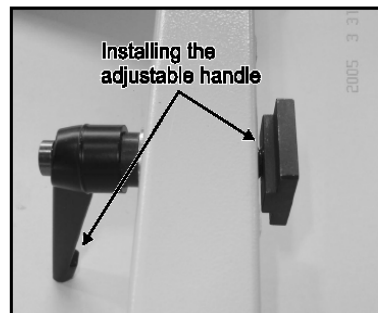

Fig. 17
1. Thread the M12-1.75x55 adjustable handle with a 12mm flat washer through the crosscut table and into a M12-1.75 T-nut. (Fig. 17)